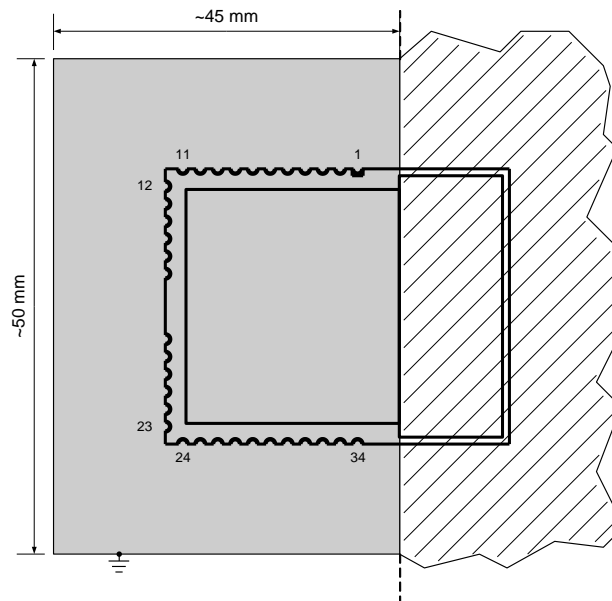

Figure 4-2: Recommended Environment
- As shown in Figure 4-2, the solid grey area must be a ground-plane on the Bottom Layer (or Layer 2 in a multi-layer structure) of the carrier board. Antenna matching and all other measurements have been done with these dimensions.
- The hatched area shown in Figure 4-2 has to be free of material (e.g. PCB, metal, housing). If possible, the distance from the antenna area to any material should be at least  $\lambda/2$  see 1.